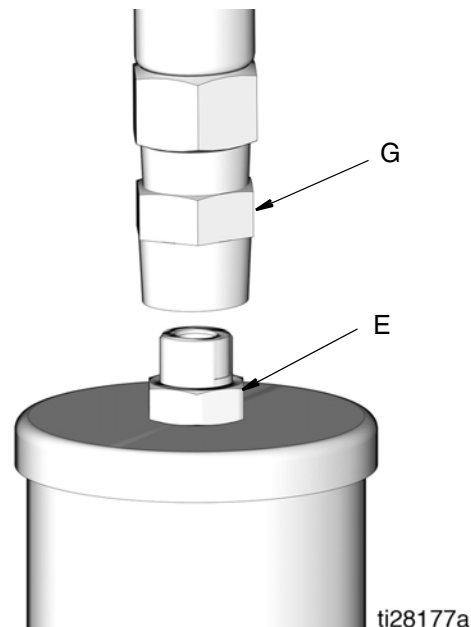

FIG. 7
3. Disconnect the lubricant supply line (G) from the pump outlet (E) (FIG. 7).
5. Run the pump a few strokes until grease, free of air, comes out of the pump outlet (E) (FIG. 7).